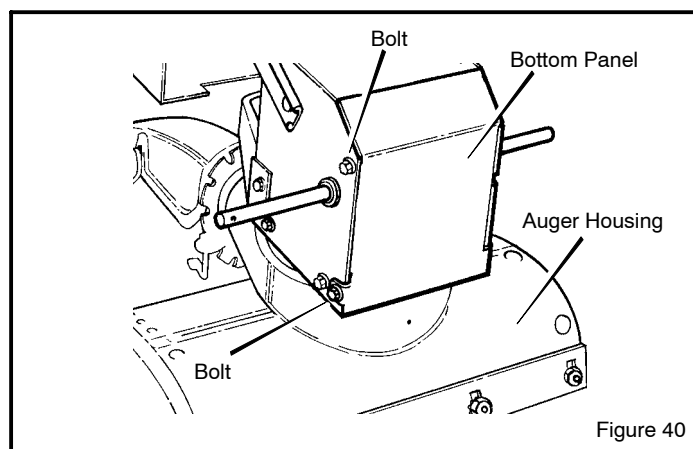

Figure 40
1. Remove the gas from the gas tank. Stand the snow thrower up on the front end of the **auger housing** (see Figure 40).
3. Loosen the **bolts** on each side of the **bottom panel** (see Figure 40).
5. Install the **bottom panel** (see Figure 40).
1. Remove the gas from the gas tank. Stand the snow thrower up on the front end of the **auger housing (4)**. (see Figure 40).